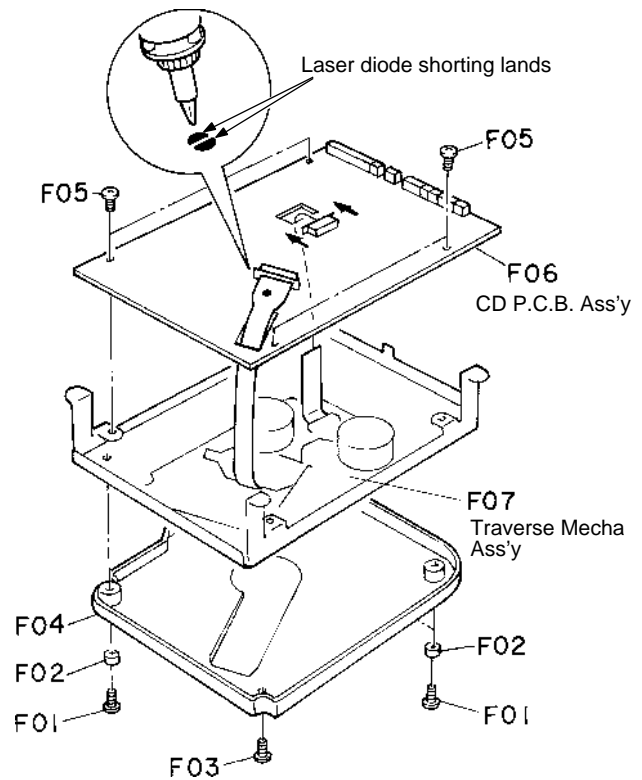

Fig. 1.7.2
- (3) Remove screws F01 (M2.6x4 + Binding (Black), 3 pcs.), collars F02 (3 pcs.) and one screw F03 (M2.6x4 + Pan (Black)), and detach F04 (Traverse Cover CD). Refer to Fig. 1.7.2.
- (4) Short the laser diode shorting lands with a soldering iron.